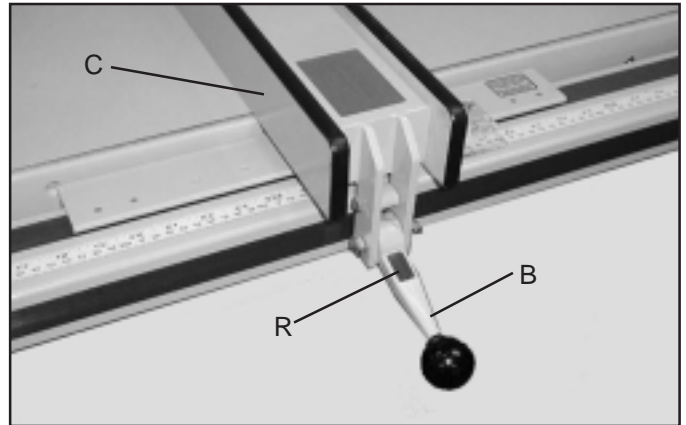
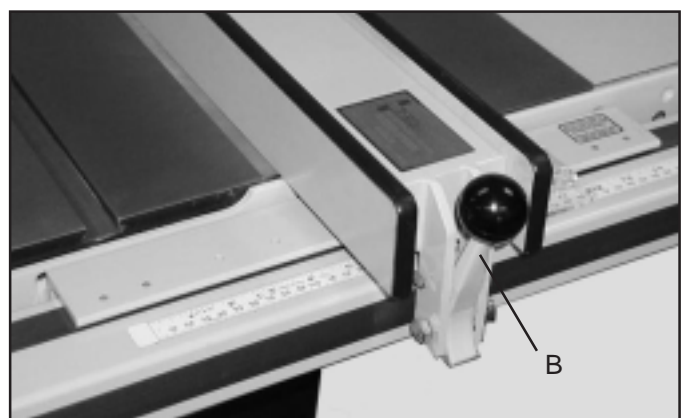

Fig. 28
Fig. 30
5. When the fence locking handle (B) Fig. 28, is pushed to the down position, the fence assembly (C) should be completely clamped to the guide tube. If the fence assembly (C) is not completely clamped to the guide tube when the handle is pushed down, as shown, lift up handle (B) and raise fence off the guide tube as shown in Fig. 27. Slightly tighten the two adjusting screws (J) and (K) (if the fence is too loose) or loosen (if the fence is too tight), using a 3/16" Allen wrench (N), not supplied. **NOTE: Screws (J) and (K) should be tightened or loosened an equal amount.** Replace the fence back on the guide tube and recheck to see if the fence assembly is completely tightened to the guide tube with the locking handle (B) pushed down. Adjust further if necessary.
7. To move the fence along the guide tube, simply lift up the locking handle (B) Fig. 30, as shown, slide the fence to the desired position on the guide, and push down locking handle (B) Fig. 28 as shown, to lock in position. **NOTE: A magnet (R) Fig. 28, is provided to hold the handle in the up position when moving the fence.**